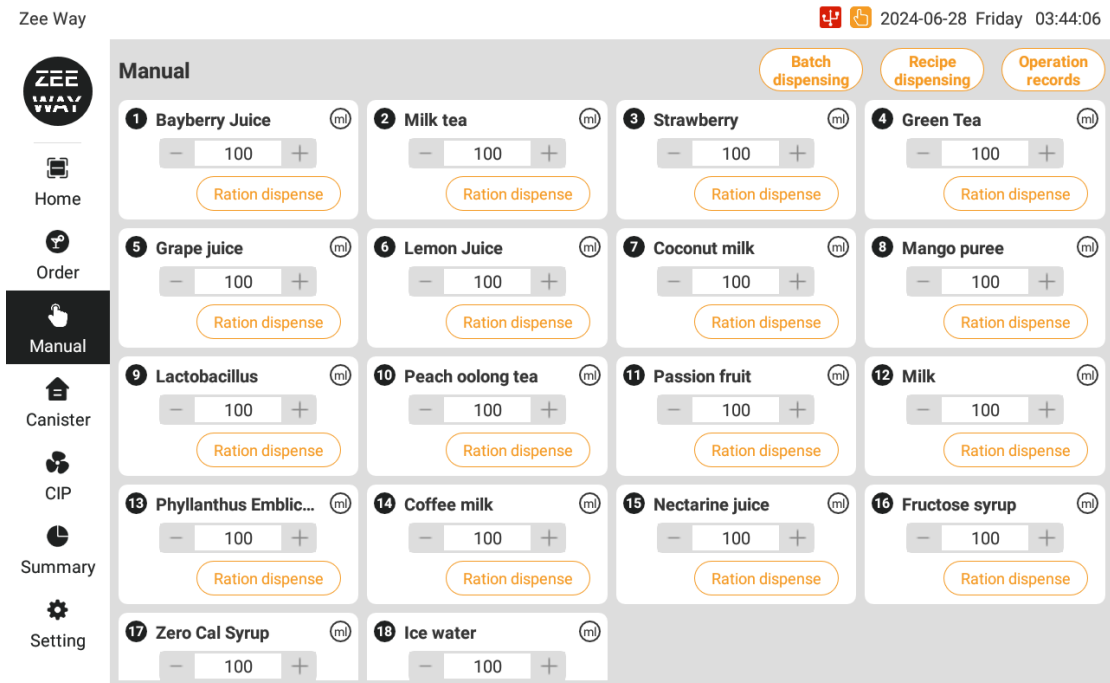

Fig. 4.3.3
- Manual dispensing by ration quantity: Support quantitative discharge, set the required discharge value, and discharge ingredients with corresponding quantities once (Fig. 4.3.3)